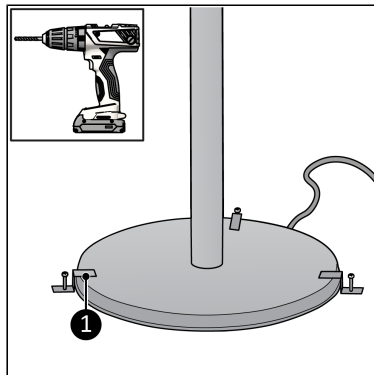

Figure 26.
3. Place the three fixing brackets (Figure 26, pos. 1) on the base and over the hole.